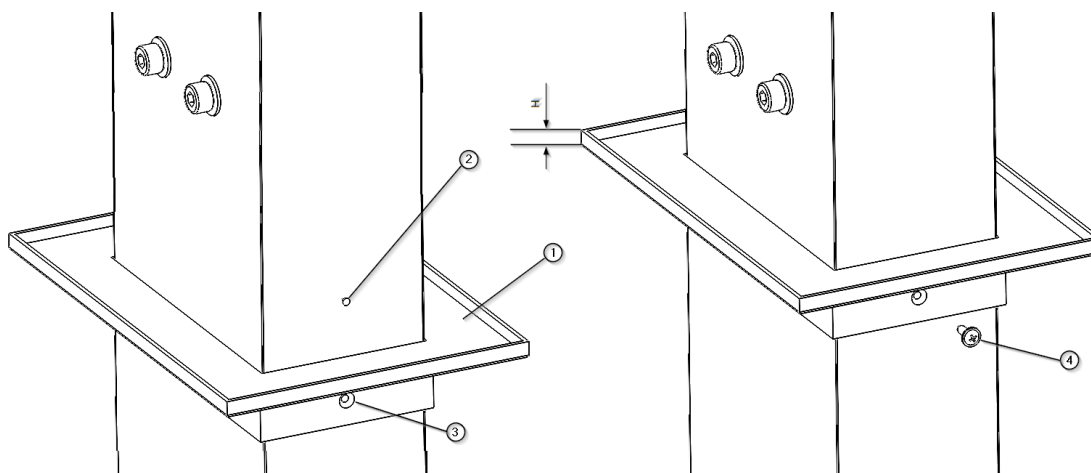

Fig. 8 Fitting the downpipe roof trim
- Present the downpipe trim ① (pre-assembled) in the final position and mark the hole ② for the self-tapping screw ④ by resting it in the hole of the trim ③. Drill a hole with a 3 mm drill bit.
- Finally fix the downpipe trim ① by screwing in the self-tapping screw ④ as shown in figure 8.